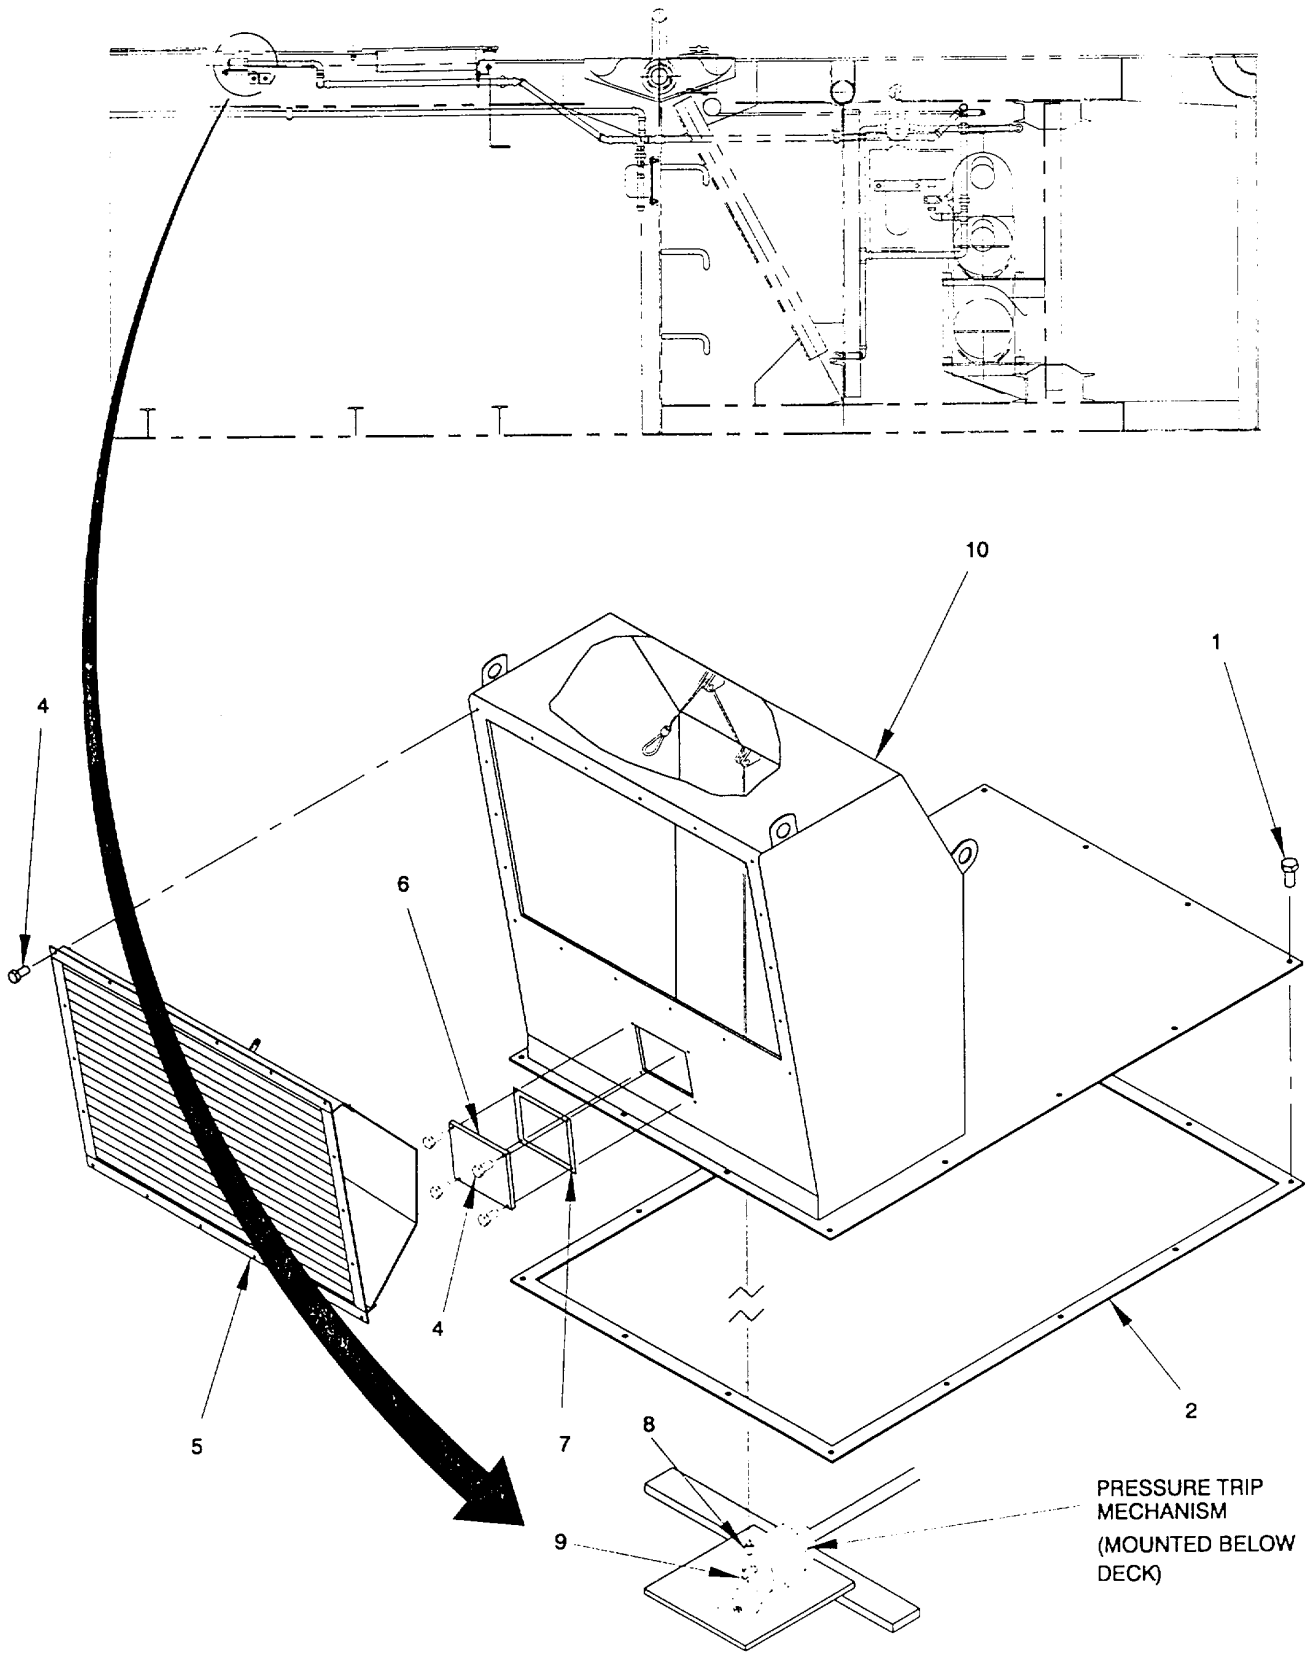

Figure 2-161. Wire Rope, Intake Plenum, Remove/Install.
- a. *Remove.* (figure 2-161)
- (1) Remove 22 capscrews (1) and collect air intake louver (2) and interconnect cover (3) with interconnect gasket (4) from intake plenum (7).
- (2) Remove oval splicing sleeve (5) from wire rope (6).
- (3) Disconnect wire rope (6) from air intake louver (2) and at pressure trip unit below deck in the lazaret compartment. Remove wire rope (6).
- b. *Install.* (figure 2-161)